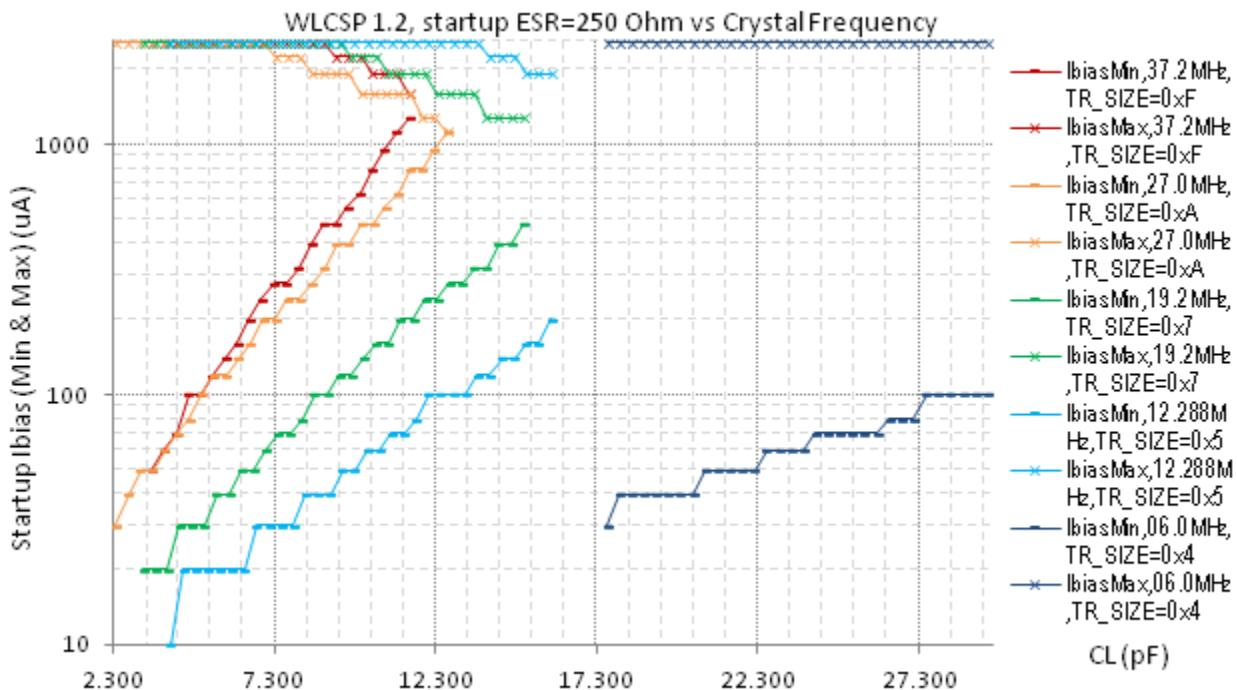

Figure 10. Safe Range of Operation for a 250 Ω Startup ESR Crystal
1. **Maximum C_L :** Looking at the safe operation range for the plotted frequency immediately above the desired frequency (27 MHz) and a startup ESR equal to 5x Resr (startup ESR = 250 Ω —Figure 10), one extracts the $C_L = 12.5 \text{ pF}$ as the maximum C_L with safe operating range. $C_L = 10 \text{ pF}$ in this example is in the safe operation range.
2. **TR_SIZE:** For the chosen $C_L = 10 \text{ pF}$ (x axis value), the recommended setting is obtained by linear interpolation between the TR_SIZE of plotted crystals with frequency immediately lower and higher. The calculation results in $\text{TR_SIZE} = 0x9$ (9), from $7 + (10 - 7) \times (24 - 19.2)/(27 - 19)$.
3. **IBIAS:** For the chosen crystal frequency of 24 MHz and startup ESR of 250 Ω (Figure 10), the recommended IBIAS is determined by the linear interpolation between the IBIAS twice above the minimum or centered in the safe Ibias range, whichever lower, for the plotted crystals with frequency immediately lower and higher for the chosen $C_L = 10 \text{ pF}$ (x axis).